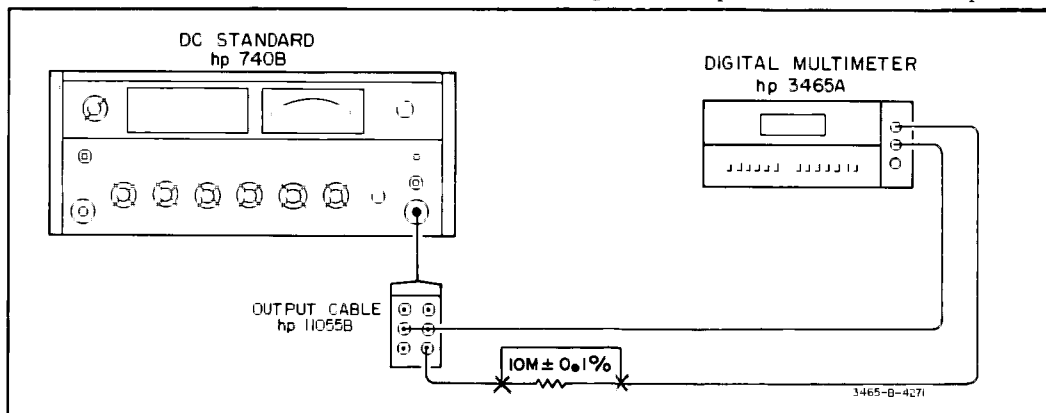

Figure 5-6. DC Voltmeter Input Resistance Test.
- a. Connect the Multimeter, DC Standard and resistor as shown in Figure 5-6.